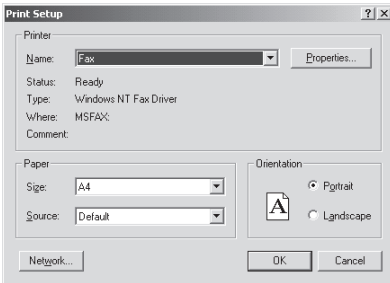

Fig. 6.3
1. Select and click the options **System Print**, then a dialogue block required to carry out the print setup operation will be displayed in the interface as in Fig. 6.3.